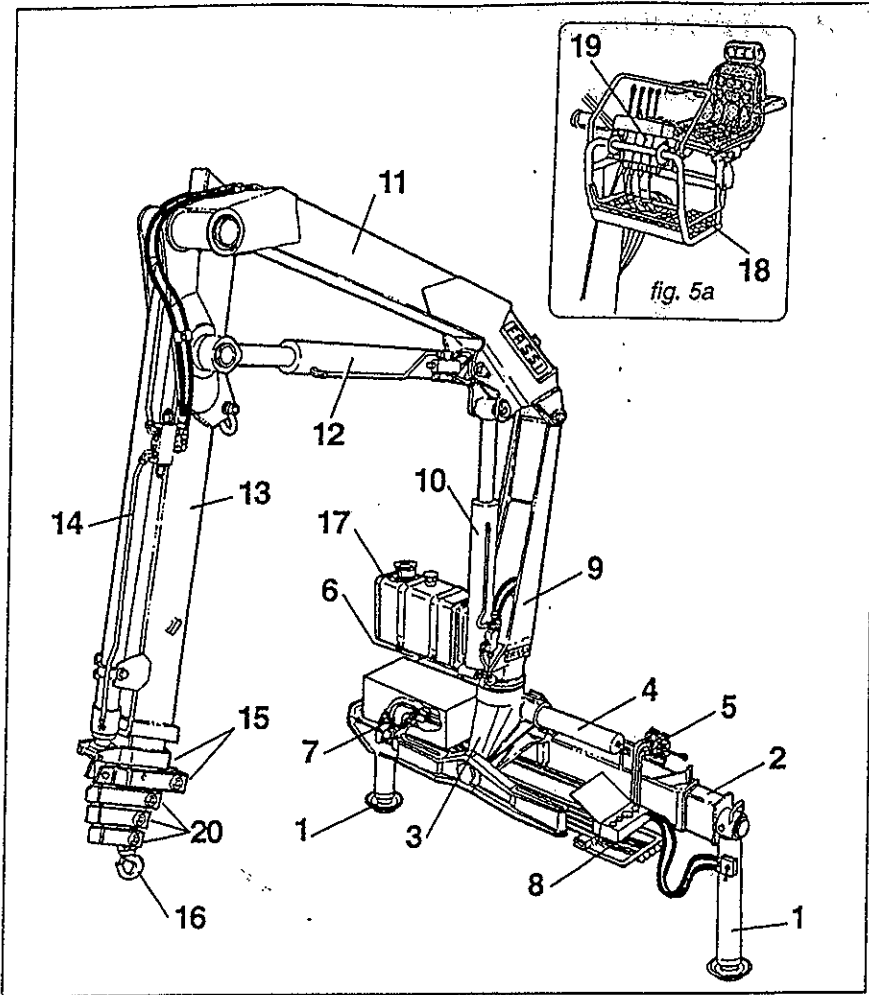

fig. 5
- Version with top seat controls (fig. 5a) for crane by hand cables (optional) (fig. 5)